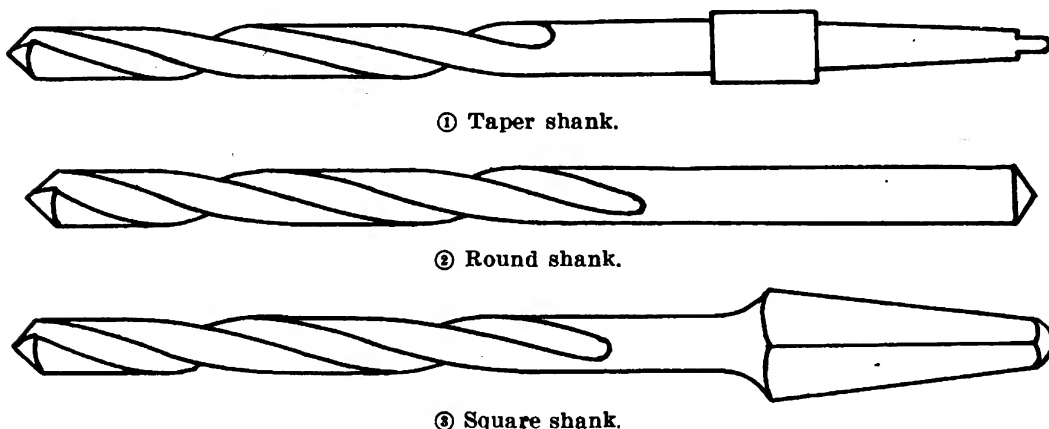

FIGURE 11.—Twist drills.
**11. Drills.**—a. The twist drill is a tool designed to bore a hole in practically any material. The twist drill may have a straight shank which is intended to be held by a 3-jaw chuck, a square shank like a wood bit which is intended to fit into the 2-jaw chuck of a brace, or it may have a taper shank designed to fitting drill presses and lathes. These types of shank and the general appearance of the twist drill are shown in figure 11.